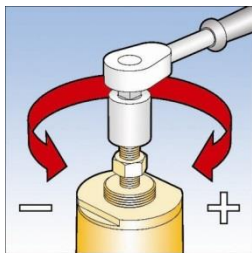

Fig. 5
17. For H.P. 65mm and 80mm unit and L.P. 100mm and 150mm unit, slacken locknut on spring adjusting stem and connect suitable spanner (24mm A/F) to hexagon of spring adjusting stem. See Fig. 5.